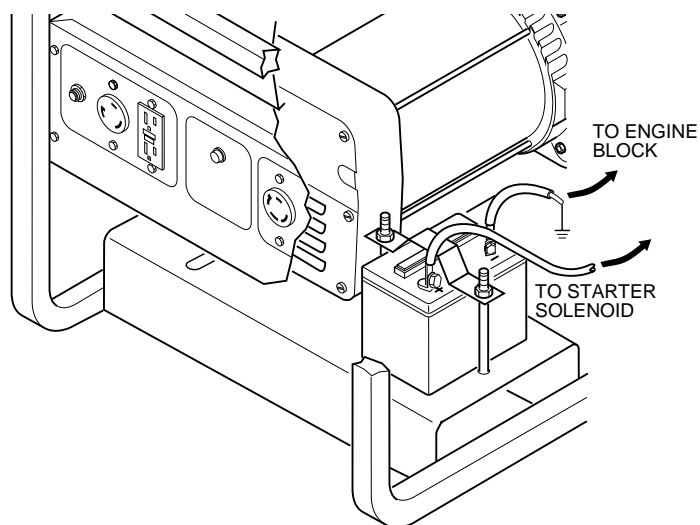

Figure 11 - Connecting Positive and Negative Cables to Battery
2. Locate the red, positive (+) battery cable from starter solenoid. Connect it to the positive (+) battery terminal (see Figure 11).
3. Locate the black, negative (-) battery cable attached to engine block. Connect it to the negative (-) battery terminal (see Figure 11).